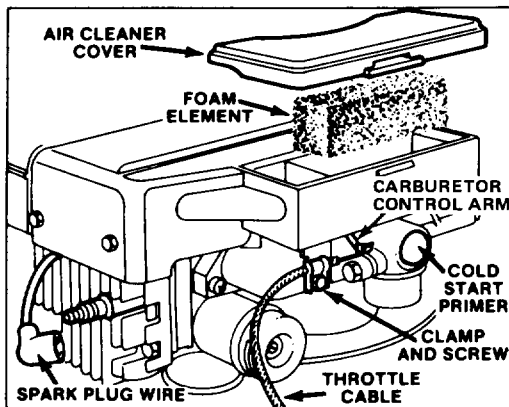

Figure 10
1. Stop engine and pull wire off spark plug (Fig. 10).
2. Place fingers under right side of cover and lift it up (Fig. 10). Clean inside and outside of cover if it is dirty.
3. Look at top of air cleaner element (Fig. 10). If it is dirty, the element must be removed from air cleaner body (Fig. 10) and cleaned.
3. Loosen cable clamp screw until throttle cable is free to slide (Fig. 10).
4. Move carburetor control arm as far to the left as possible (Fig. 10). Pull throttle cable slightly to remove any slack, and tighten the cable clamp screw to lock the adjustment in place.
2. Clean around spark plug and remove plug from cylinder head (Fig. 10).
1. Stop engine. Pull wire off spark plug (Fig. 10).